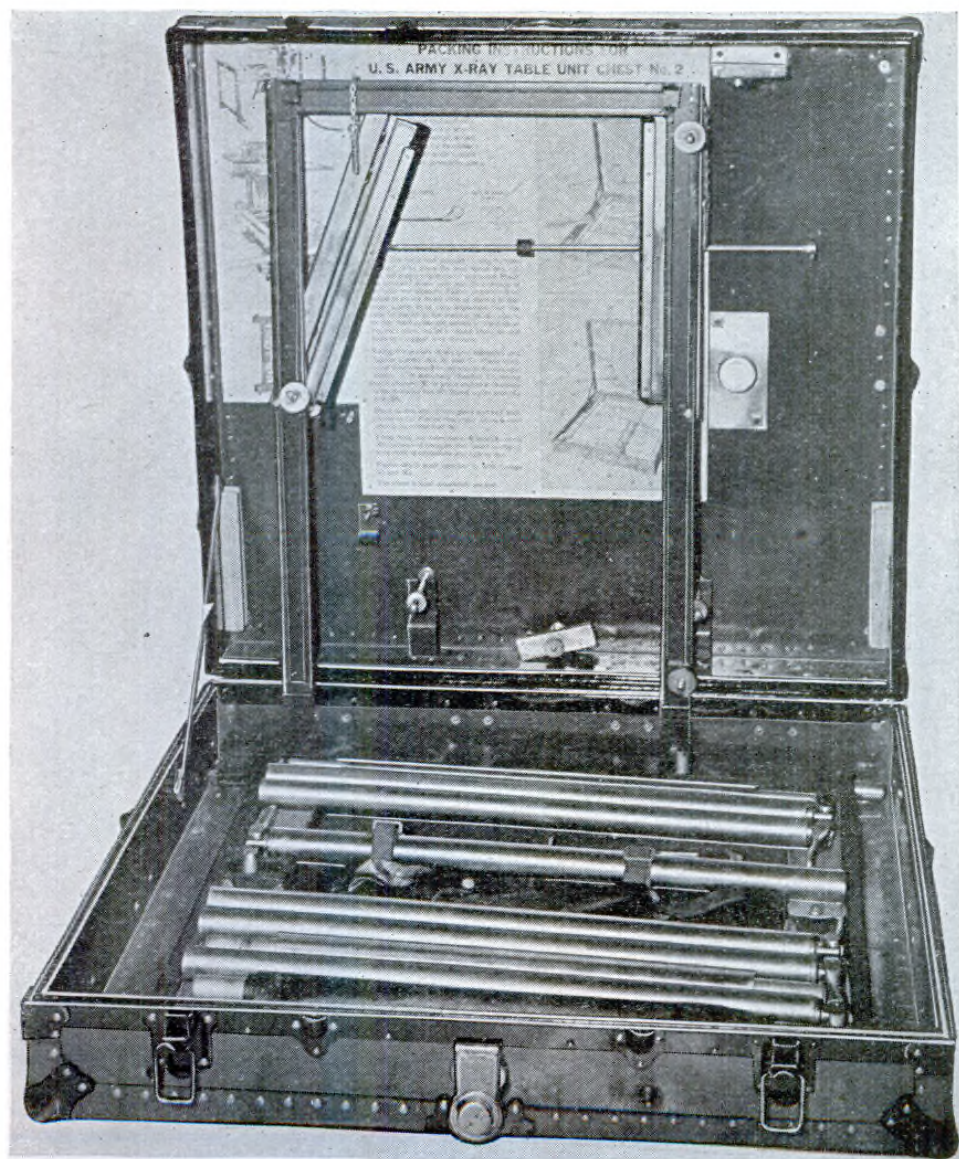

Figure 65. Small trunk part No. 9R05867, without table end and fluoroscopic screen.
- u.* Cover and secure the protective shield by means of two table rails. (See fig. 65.)
- v.* Replace the remaining table rails exactly in the order shown in figure 65. This is most important to assure proper clearance for the screen arm.